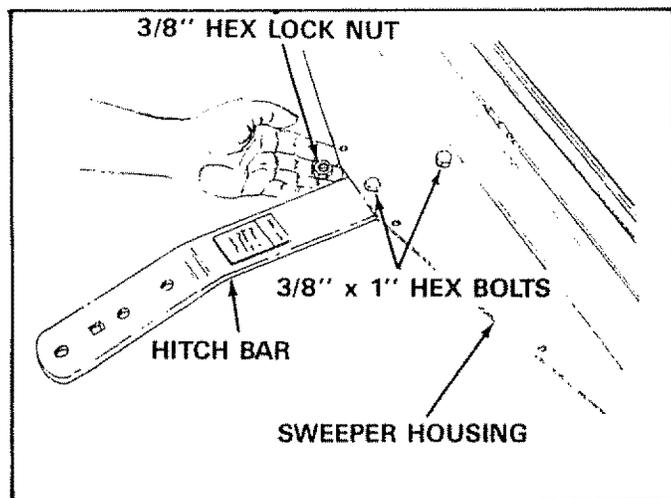

FIGURE 3
1. Assemble the hitch bar to the sweeper housing; place hitch bar under sweeper housing as shown in figure 3.
2. Secure hitch bar with two 3/8" x 1" hex bolts and 3/8" lock nuts. See figure 3. **Do not tighten at this time.**